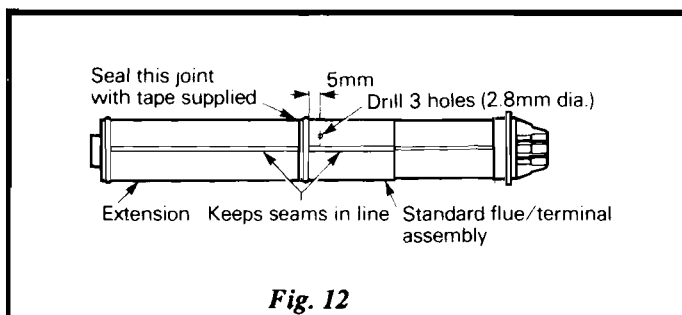

Fig. 12
14.11 Flue extension - see Fig. 12 (side flue).
2. Drill three equally spaced holes using a 2.8 mm drill in the position shown in Fig. 12, through both the standard flue/terminal and the extension tube sleeve. Secure the two tubes together using the three No.8 x 10 lg. screws supplied with the flue extension.